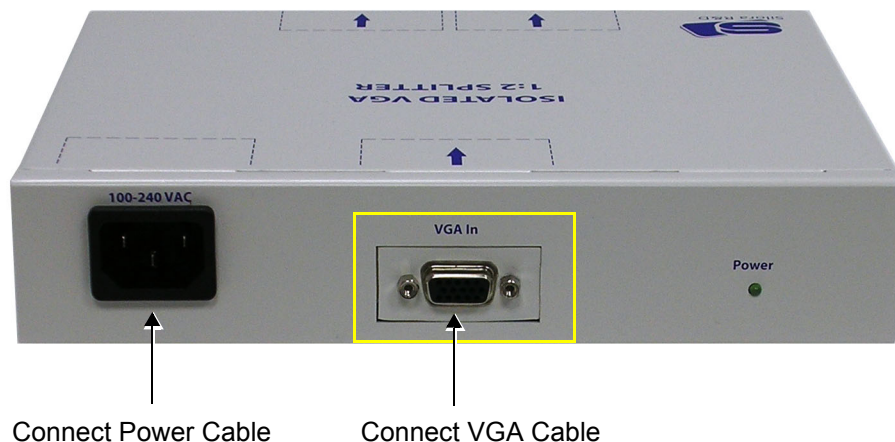
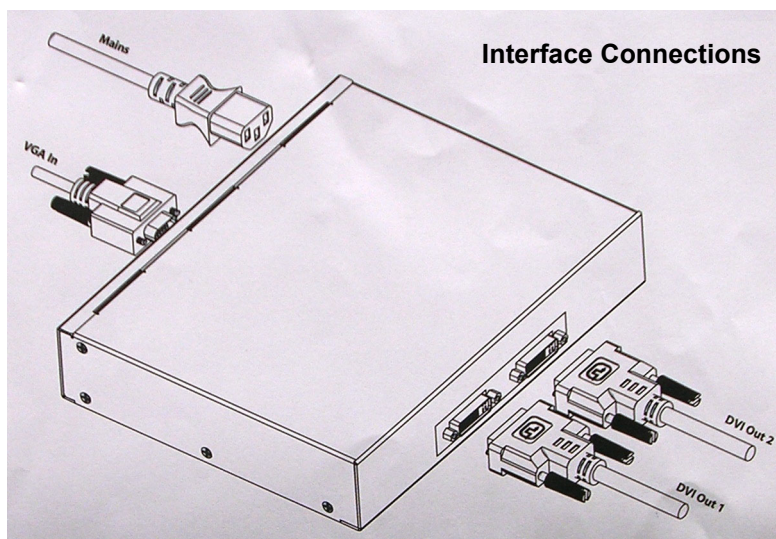

Figure 3-58 VGA Splitter - Rear View
Figure 3-59 Connections to VGA Splitter
- 1.) Connect the VGA cable (Figure 3-57) to the VGA input port at the rear of the VGA splitter (see Figure 3-58 and Figure 3-59).
- 2.) Plug the VGA Splitter power cable (Figure 3-57) into the power socket on the rear of the VGA Splitter (see Figure 3-58 and Figure 3-59).
- 3.) Connect the necessary DVI cables (Figure 3-57) to the VGA Splitter DVI output ports (as required for further connection to other DVI devices). Refer to Figure 3-59, above.